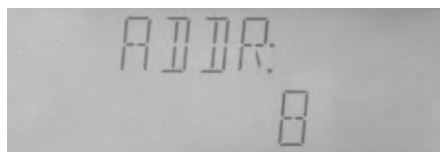

Figure 4-31 Communication address setup
- At system setup page, select "ADDR" through 【◀】 or 【▶】 key, as shown in Figure 4-31.